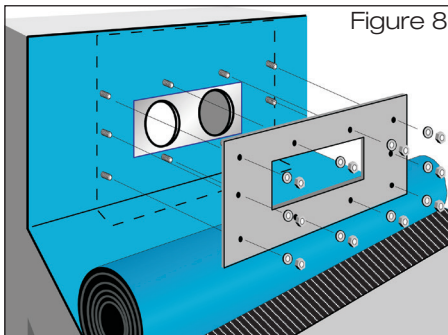

Figure 8
- 1.8 Clamp the vapour barrier sheet with loose flange and the screws provided (Fig. 8). Tighten the enclosed screws using an AF 13 open-ended or ring spanner, working criss-cross. Insert the sealing element into the socket of the sliding flange.